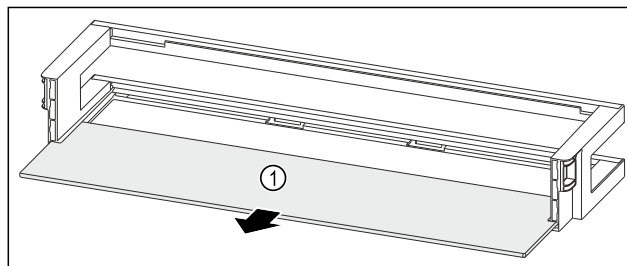

Fig. 82 Door rack with shelf
- ▶ Remove the shelf Fig. 82 (1).